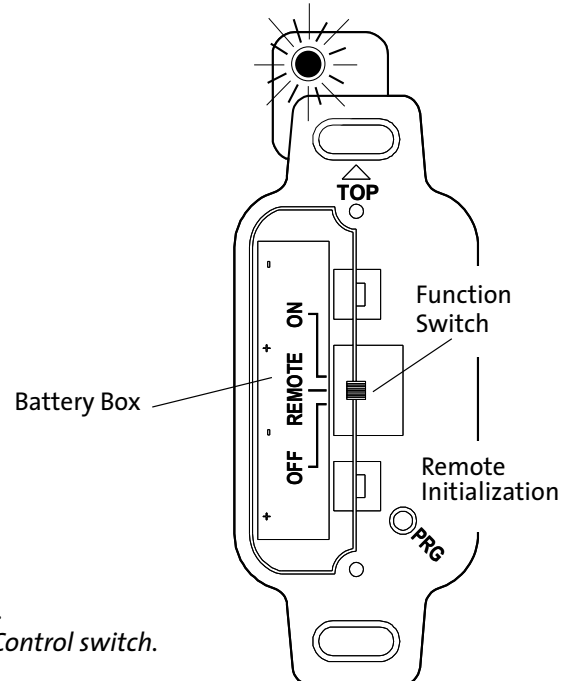

Figure 8.4.
3. Press the black initialization button (PRG) at the lower right of the switch box faceplate (fig. 8.4, page 27). The board will “beep” three times signalling a 10-second synchronization time limit.